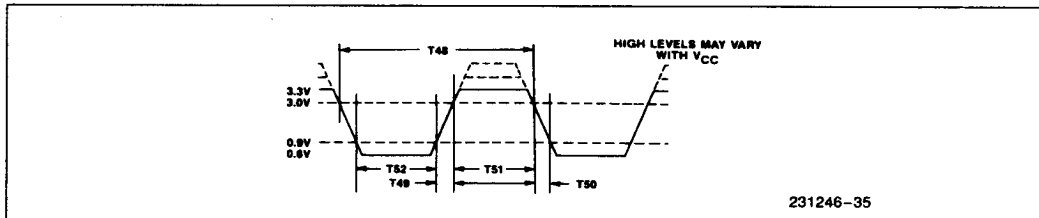

Figure 34. $\overline{\text{TxC}}$ Input Voltage Levels for Timing Measurements
14. 82C501 compatible levels, see Figure 34